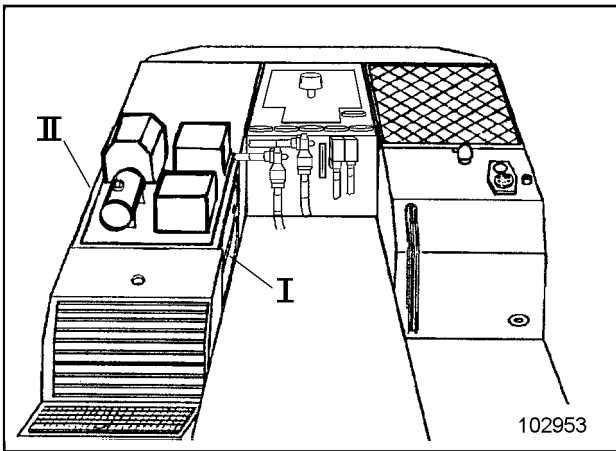

Fig. 2
- Open hatch I (Fig. 2) to gain access to the filters.